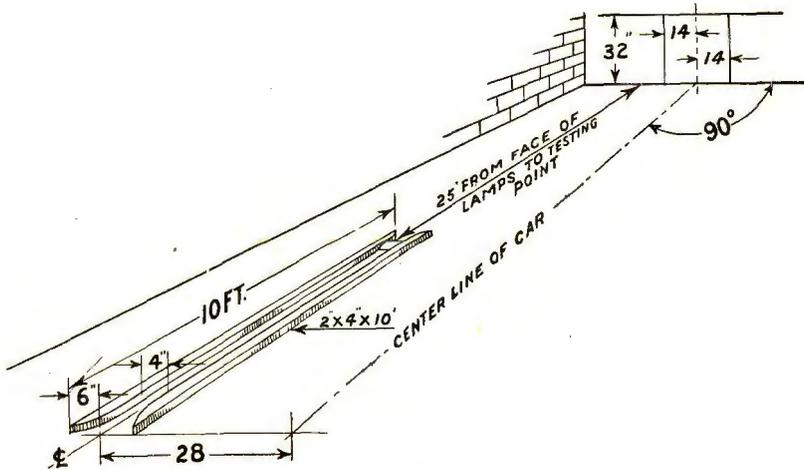

Fig. 128
- (a) The tops of the bright spot on the 25-foot wall are set at a line 32" above level of surface on which car stands (See Fig. 128). With top lines thus set for empty car, the headlamps will also have the proper tilt under full loads.
158 With the car facing a white wall 25 feet in front of headlamps, proper alignment can readily be checked by means of a horizontal line drawn on the wall 32" above the level surface of car, and two vertical lines 28" apart, each one 14" from center line of car. Proper alignment of car relative to marks on the wall can be provided by the use of wheel guide blocks for one side of the car, as shown in Fig. 128. If it is impractical to tie up the floor space required by these blocks, marks painted on the floor can be used to show where one set of wheels should track and where the car should be stopped.